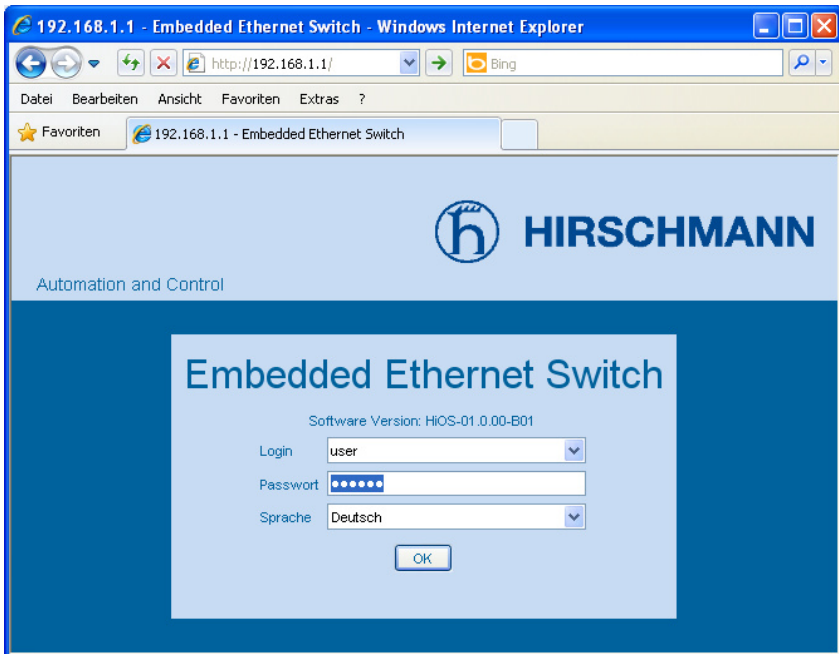

Figure 2-1: Login window
- Establish a connection to the EES by entering the IP address in the following form: `http://192.168.1.1`. The Web login window in Figure 2-1 will be displayed.